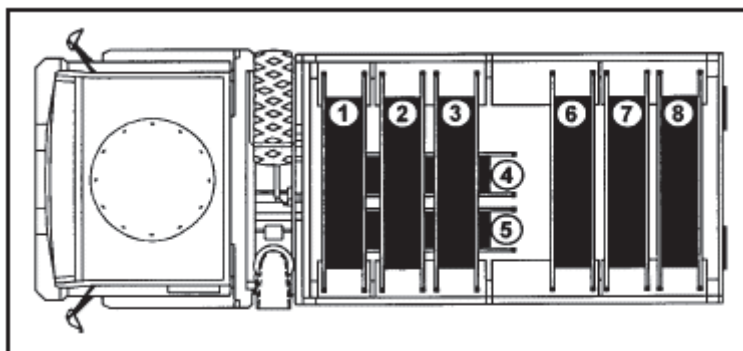

Figure 3-15. Load an M-1093
3. Direct nonmedical Soldiers to load an M-1093. (See Figure 3-15.)